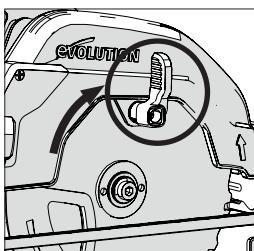

Fig. 5
- Rotate the lower blade guard up into the upper blade guard using the manual thumb lever. (**Fig. 5**)